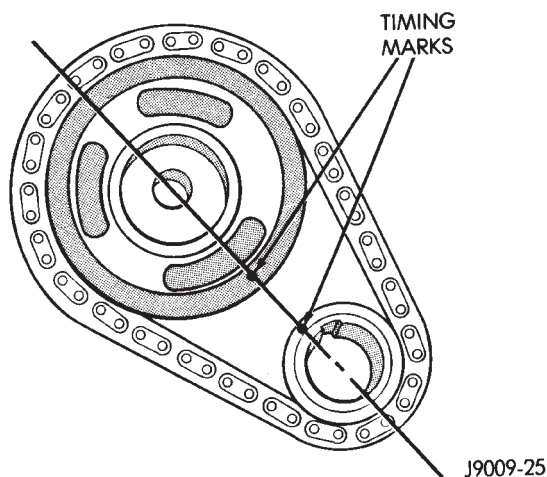

Fig. 15 Timing Chain Alignment
- (7) Remove the serpentine drive belt.
- (8) Remove the crankshaft vibration damper.
- (9) Remove the timing case cover. Clean the gasket material from the cover.
- (10) Rotate crankshaft until the crankshaft sprocket timing mark is closest to and on the center line with the camshaft sprocket timing mark (Fig. 15).
- (1) Clean the camshaft pin hole.
- (2) Compress the center of the replacement spring pin with vise grips.
- (3) Carefully drive the pin into the camshaft pin hole until it is seated.
- (4) Install the camshaft sprocket, crankshaft sprocket and timing chain with the timing marks aligned (Fig. 15).